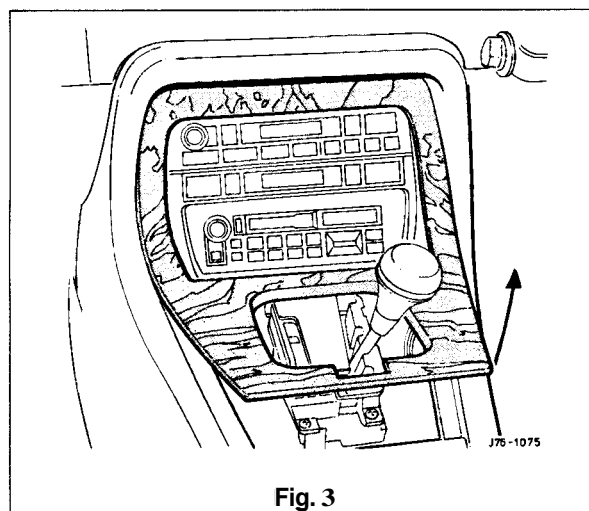

Fig. 3
- Displace and remove the console finisher veneer panel. See Fig. 3.